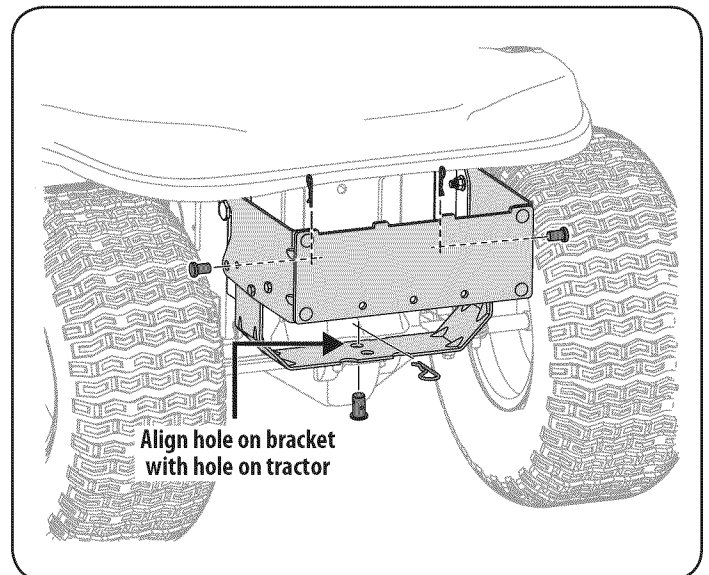

Figure 6
2. Install the clevis pin (711-0309A) from hardware pack 689-00319 into the tractor's hitch and the assembly's hitch support and secure with a hairpin clip (714-0117). See Figure 6.
3. Install the two clevis pins with hairpin clips retained earlier, as shown in Figure 6, to secure the top of the hitch support assembly.